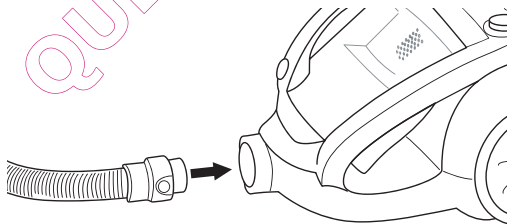

Figure 2 *Fitting the hose to the connector*
1. Click the hose connector into the hose opening on the motor unit. To remove the hose, press on the two release buttons on the side of the connector and pull the connector from the opening; see Figure 2.